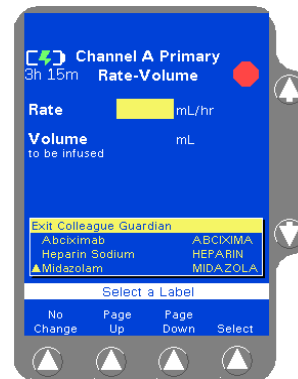

Figure 11-6 Colleague Guardian Label List
2. Press the **Colleague Guardian** soft key from the Programming screen. The labels for which COLLEAGUE GUARDIAN limits have been defined are displayed in a pop-up window (Figure 11-6).